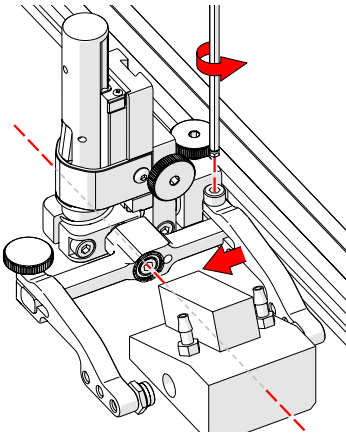

Fig. 80 - Adjust inner arm
4. Position the wedge on the inner probe holder arm (Fig. 80).
TIP: The probe holder yoke can accommodate many different probe and wedge sizes of varying widths. It is best to centre the wedge with the yoke's pivot axis. This can reduce wedge 'rocking' when scanning. Position the inner probe holder arm accordingly (Fig. 80) using the supplied 3 mm hex driver (Fig. 40).